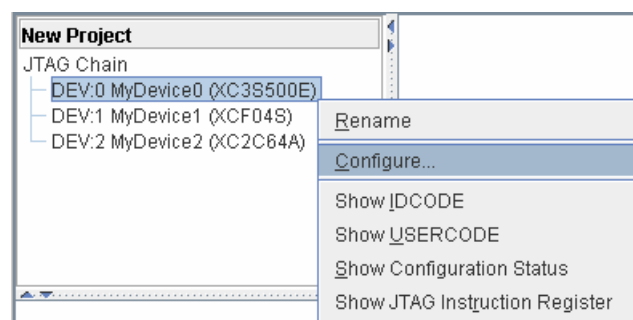

Figure 3.2 – Configure FPGA option
- ❺ Spartan-3E board contains three devices in the JTAG chain: XC3S500E, XCF04S and XC2C64A Coolrunner CPLD. These devices will be detected along with Instruction Register (IR) Lengths and Device ID Codes.
- ❻ Click OK. These three devices get added to JTAG Chain list. In the JTAG Chain List, right click XC3S500E device and select configure (Figure 3.2).